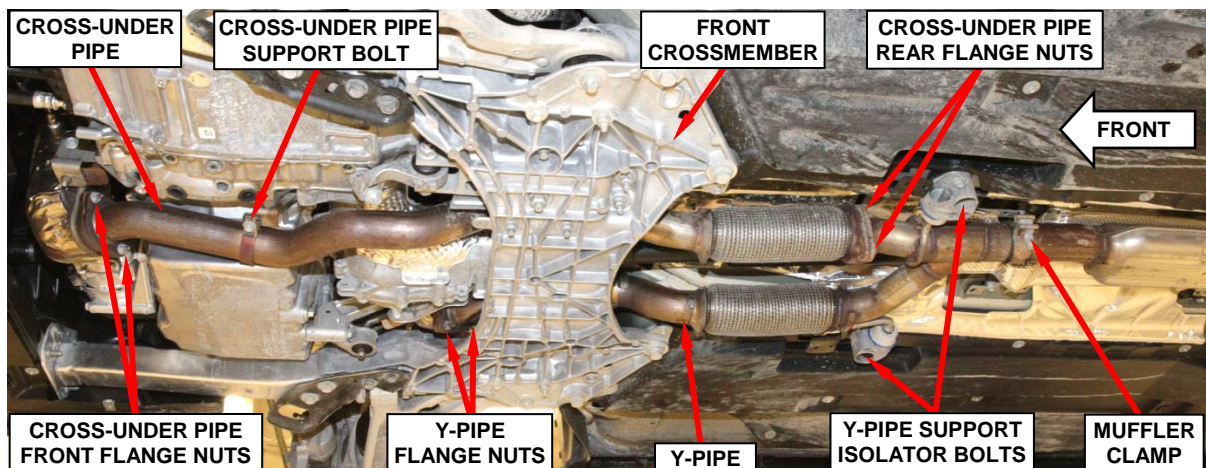

Figure 8 – Exhaust Cross-Under Pipe and Y-Pipe
- a. Remove the rear flange nuts from the cross-under pipe (Figure 8).
- b. Remove the cross-under pipe support bolt (Figure 8).
- c. Remove the front flange nuts from the cross-under pipe (Figure 8).
- e. Loosen the muffler clamp from the Y-pipe (Figure 8).
- f. Remove the Y-pipe support isolator bolts (Figure 8).
- g. Remove the flange nuts from the Y-pipe (Figure 8).
- b. Install the flange nuts securing the Y-pipe to the catalytic converter. Tighten the flange nuts to 18 ft. lbs. (25 N·m) (Figure 8).
- c. Install the Y-pipe support isolator bolts. Tighten the isolator bolts to 18 ft. lbs. (25 N·m) (Figure 8).
- d. Tighten the muffler to Y-pipe clamp to 41 ft. lbs. (55 N·m) (Figure 8).
- f. Install the front cross-under pipe flange nuts. Tighten the flange nuts to 18 ft. lbs. (25 N·m) (Figure 8).
- g. Install the cross-under pipe support bolt. Tighten the cross-under pipe support bolt to 17 ft. lbs. (23 N·m) (Figure 8).
- h. Install the rear flange nuts to the cross-under pipe. Tighten the flange nuts to 18 ft. lbs. (25 N·m) (Figure 8).